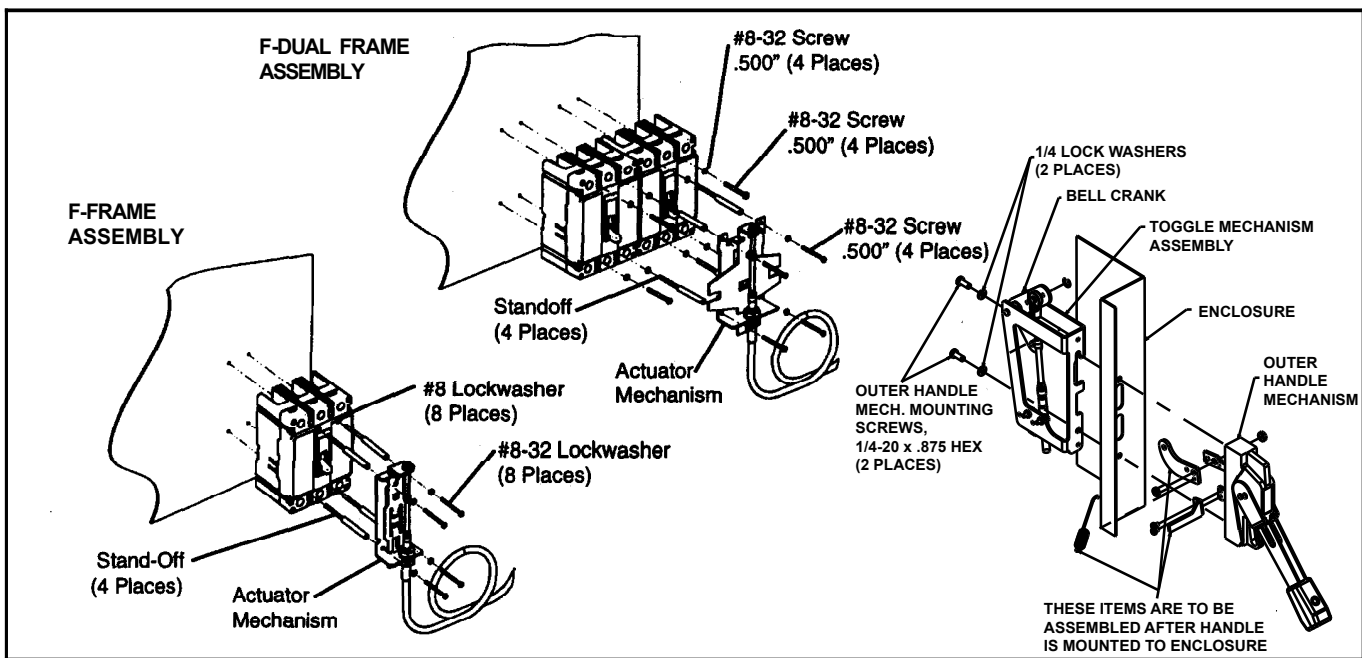

Fig. 1-1 Securing Actuator Mechanism to Breaker and Toggle Mechanism and Handle to Flange.
1. For the F-Frame Flex Shaft™ Handle Mechanism, install breaker with four standoffs and lock washers. For the F-Frame Dual Flex Shaft™ Handle Mechanism, install each breaker with two standoffs & lock washers (inner mounting holes of breaker) and two mounting screws & lock washers (outer mounting holes of breaker). See Fig. 1-1.